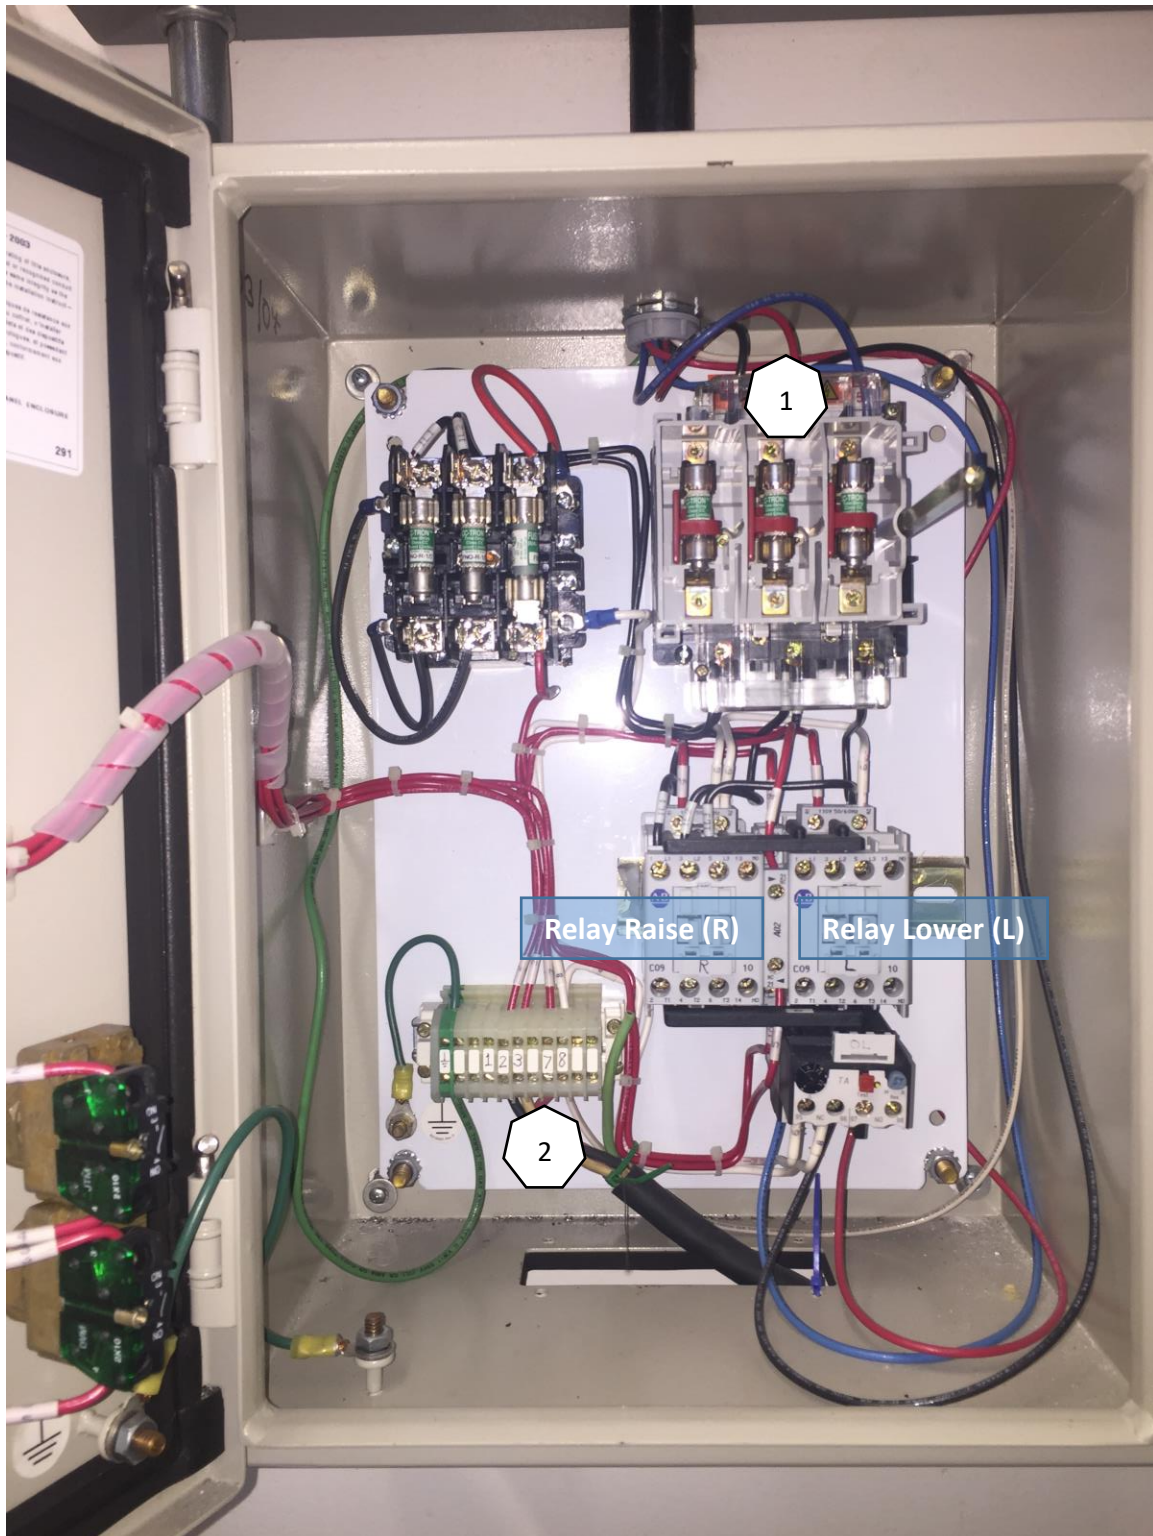

Figure 3. An overview of the circuit of the control box.
- (3) Turn on the Duff-Norton switch in the main fuse box. Press the raise/lower bottom and see if it is working. If not, then proceed with caution and check the voltages across the inlet. The voltage difference should be ~200V between each pin (locate at position “1” in figure 3). If there’s no voltage, it most likely means the issue is at the main fuse box.
- (4) Check the voltage across the outlet at position “2”. When pressing the lifting bottoms, the voltage difference between each lug should be ~200V. If the problem persists, the control box is working fine, but the connections to the motor or inside of the motor may be bad.
- (5) Turn off the main switch in the main fuse box and check the resistance of the fuses with a multi-meter. If there is a broken one, replace it. Check the connection of the wires and lugs as well.
- (6) If all the components work fine, but the issue persists, turn on the main switch from the main fuse box and check the conductivity of the relay. Proceed with caution and press the middle part of the relay with a screwdriver (or finger, but not recommended, shown in the figure below), the relay should get a response and lower/raise the magnet accordingly. If not, there is an issue with the relay.